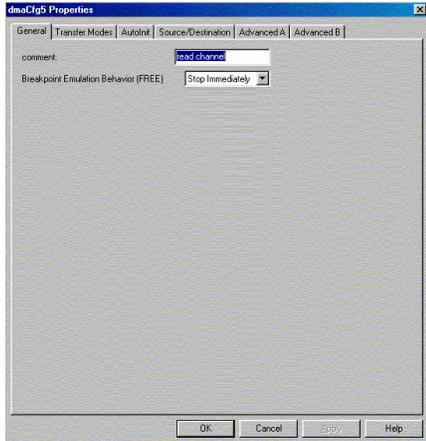

Figure 19. DMA dmaCfg5 General Tab
- Right click on *dmaCfg5* and select properties. In the *General* tab you may choose to add the Comment *read channel* as shown in Figure 19.